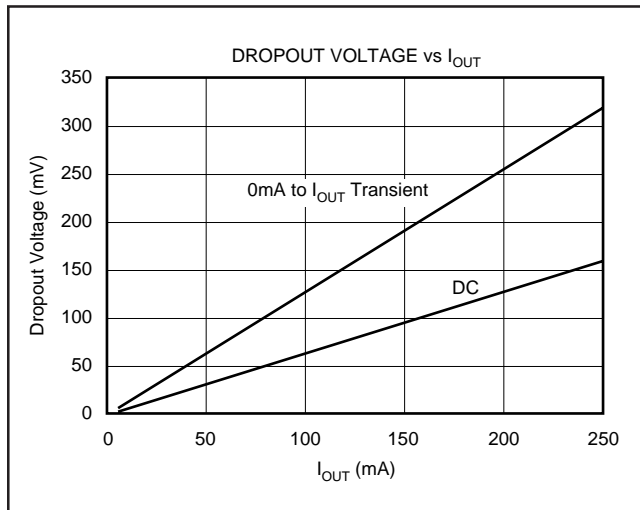

FIGURE 6. Transient and DC Dropout.
The REG102 uses an N-channel DMOS as the pass element. When  $(V_{IN} - V_{OUT})$  is less than the drop-out voltage ( $V_{DROP}$ ), the DMOS pass device behaves like a resistor; therefore, for low values of  $(V_{IN} - V_{OUT})$ , the regulator input-to-output resistance is the  $R_{dsON}$  of the DMOS pass element (typically  $600m\Omega$ ). For static (DC) loads, the REG102 typically maintains regulation down to a  $(V_{IN} - V_{OUT})$  voltage drop of  $150mV$  at full rated output current. In Figure 6, the bottom line (DC dropout) shows the minimum  $V_{IN}$  to  $V_{OUT}$  voltage drop required to prevent dropout under DC load conditions.
For large step changes in load current, the REG102 requires a larger voltage drop across it to avoid degraded transient response. The boundary of this transient drop-out region is shown as the top line in Figure 6 and values of  $V_{IN}$  to  $V_{OUT}$  voltage drop above this line insure normal transient response.